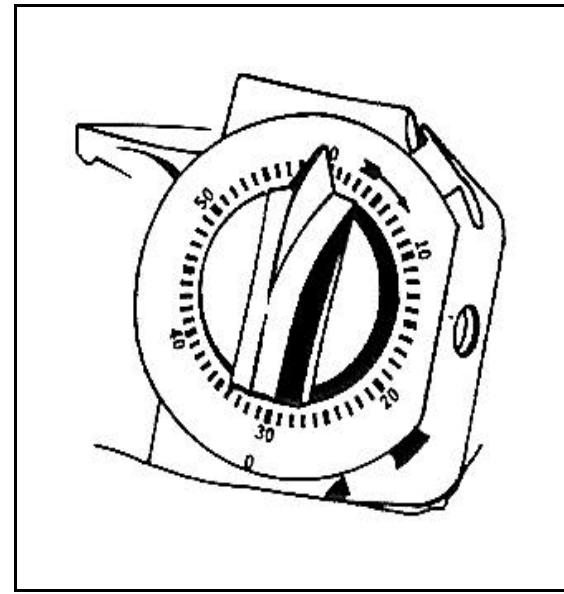

Figure 11-48. Putting on the OBA,
- **Step 12.** Set the timer (Figure 11-48, page 11-60) by turning the knob clockwise. On older units, the timer is set for 30 minutes. This allows the wearer 15 minutes to leave the contaminated area after the alarm sounds. On newer units, the timer may be set for 45 minutes or less. The control should be turned to the extreme clockwise position and then reset to the desired time interval. This ensures that the alarm will sound for a full 8 to 10 seconds.